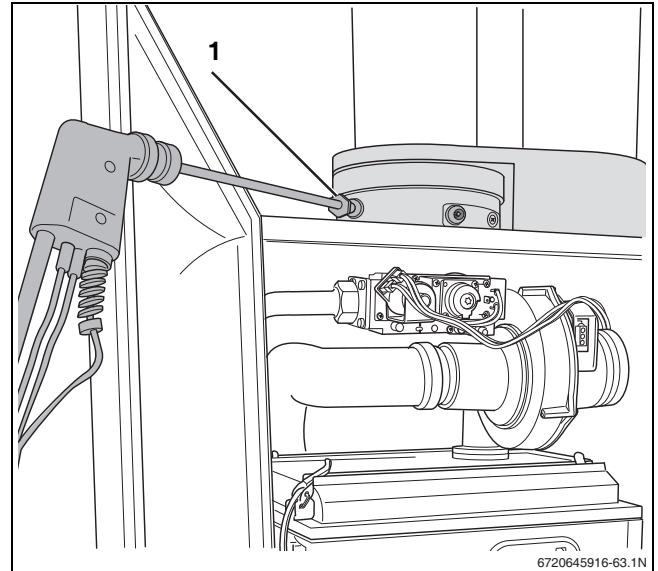

Fig. 69 Measuring the flue gases CO emissions
- ▶ Remove the cover from the flue gas measuring point (→ fig. 69, [1]).
- ▶ Connect the flue gas analyzer to the left-hand measuring point, insert it roughly 2" (→ fig. 69).